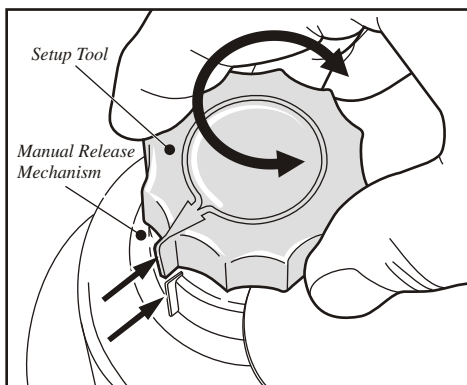

Figure 27 Twist Setup Tool Until Marks Align
7. Now turn the origin setup tool, until the arrow on the set-up tool lines up with the mark on the release mechanism cover as in Fig. 27 (Take care to line it up with the correct mark.)